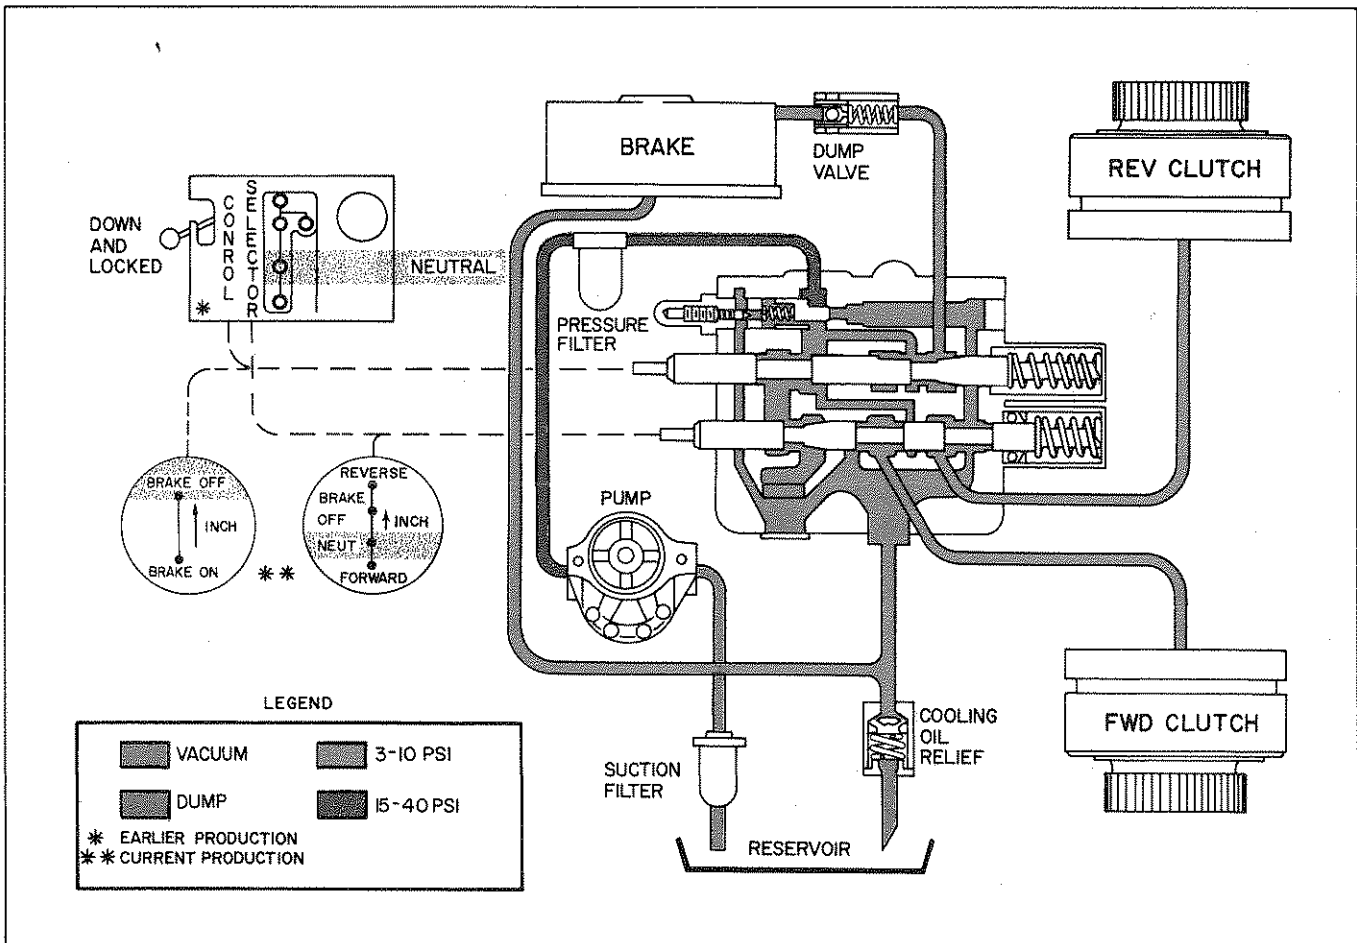

Figure 1-11. Hydraulic Flow Diagram, Neutral, Normal Operation
1-24. HYDRAULIC SYSTEM IN NEUTRAL, NORMAL OPERATION. (See Figure 1-11.) On Earlier Production Handling Gear, the system is placed in NEUTRAL, Normal Operation by: (1) Moving the Control Lever Down and locking it in place and (2) Shifting the Selector Lever to the NEUTRAL position. On Current Production Handling Gear, this is accom-